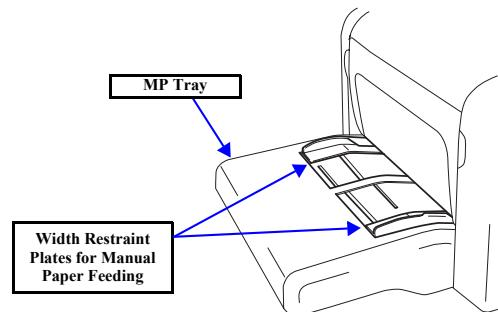

Figure 2-23. Manual Paper Feeding
- Manual paper feeding can be performed through the paper feed slot above the MP Tray. (See "Figure 2-23")